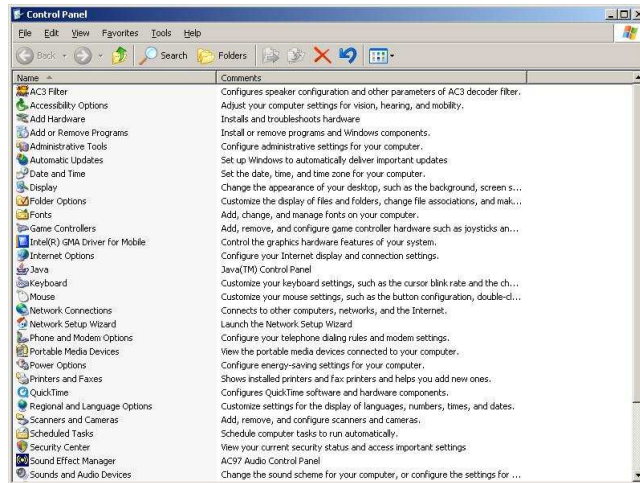

Figure 21: Control Panel
2. Double click on **Control Panel**, obtaining a screen like figure 21.